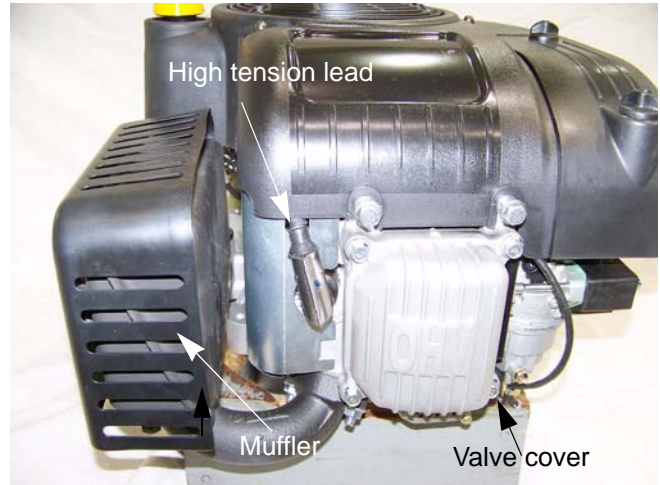

Figure 1.10
3. Remove the spark plug using a 13/16" or 21mm wrench. A flexible coupling or "wobbly" extension may help. See Figure 1.10.